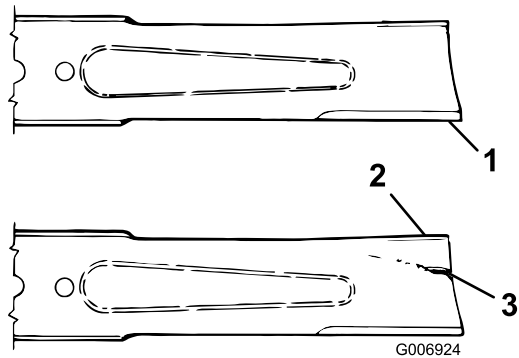

Figure 45
2. Inspect the cutting edges (Figure 45). If the edges are not sharp or have nicks, remove the blades and sharpen them; refer to Sharpening the Blades.
3. Inspect the blades, especially the curved area (Figure 45). If you notice any damage, wear, or a slot forming in this area (Figure 45), immediately install a new blade.